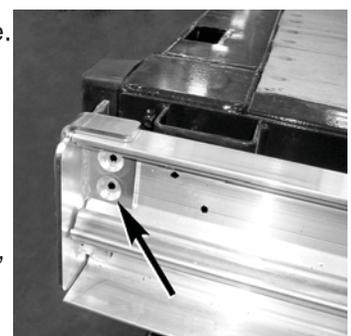

Figure 18
28) See figure 18. Insert the rear rail stop (7 & 8) into the rear rail extrusion with the holes in the roll stop plate against the inside of the rail. Using the holes in the rail stop as a guide, mark the rail. Drill 1/2" holes through the rail, rub rail, shim and stake pocket.